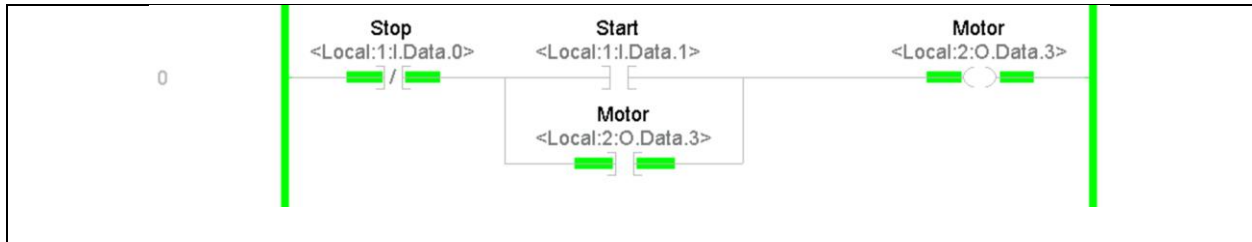

Figure 5. The ladder routine.
- Download the project and go Online, and put the controller in the Run mode (or Remote Run). The user should see the rung as shown in Figure 5, after the Start pushbutton is pressed.